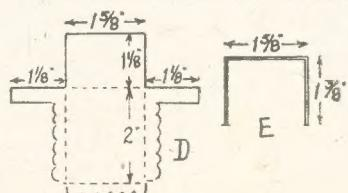

Fig. 5—Canopy details
A canopy over the seat is provided, and this should be in some gay colour to impart a touch of liveliness to the model. The canopy supports are bent up from stiff wire to the shape shown at (E) in Fig. 5. They bridge the well, the lower ends entering in holes bored in the top edges of the sides of the boat, at 2ins. apart.
Approximate dimensions of the canopy are given at (D) in Fig. 5. Make a paper pattern of this and try it over the supports, noting any amendments that may be necessary in size, and allow a trifle extra for narrow hems. Lay the pattern on the material and cut out. If you can obtain the assistance of a lady friend, the scalloped edges of the canopy would look much better if over-stitched or buttonholed. Fix the canopy to its supports with a few stitches where needed.